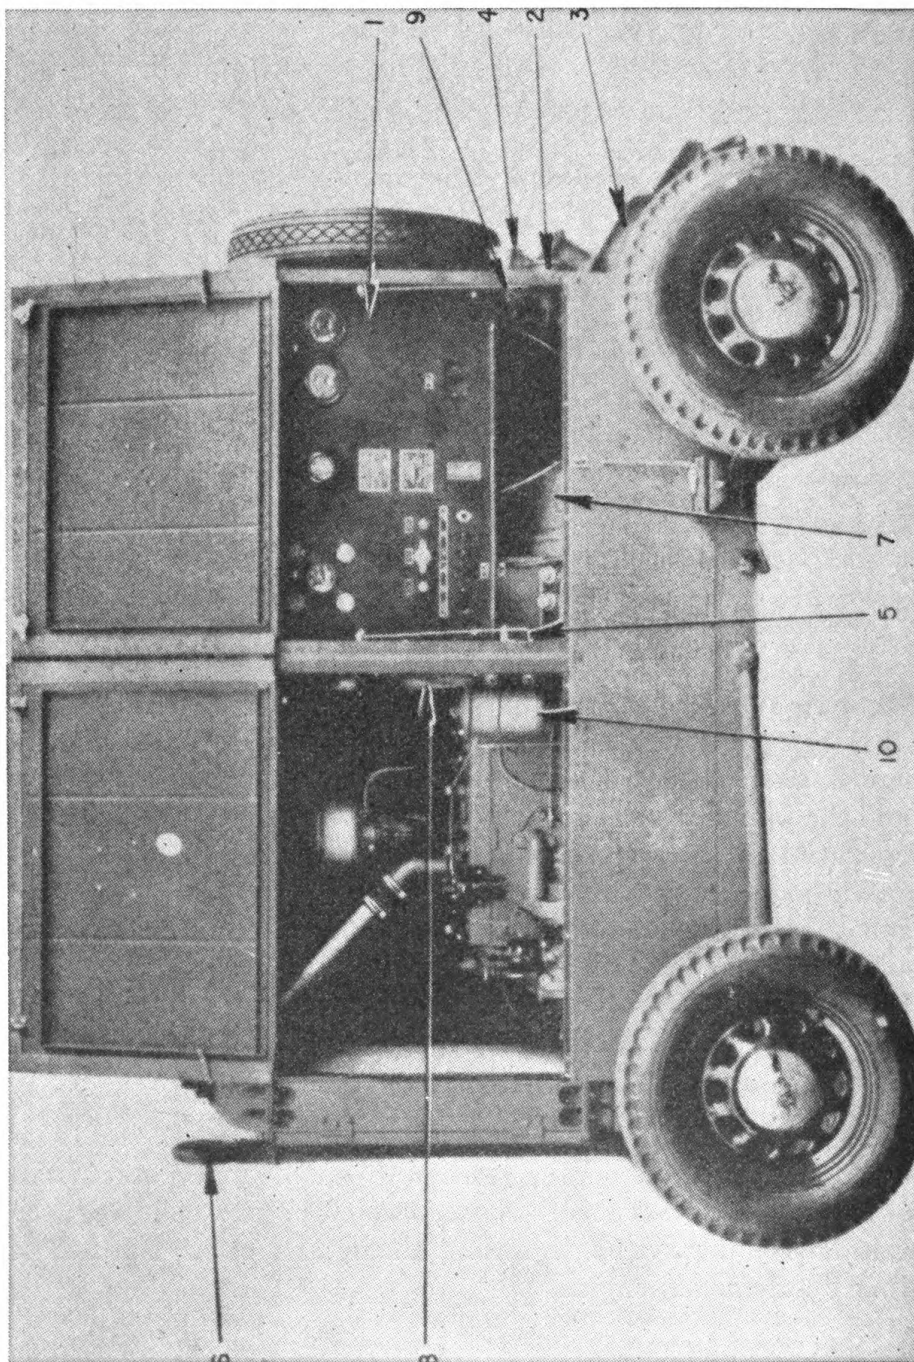
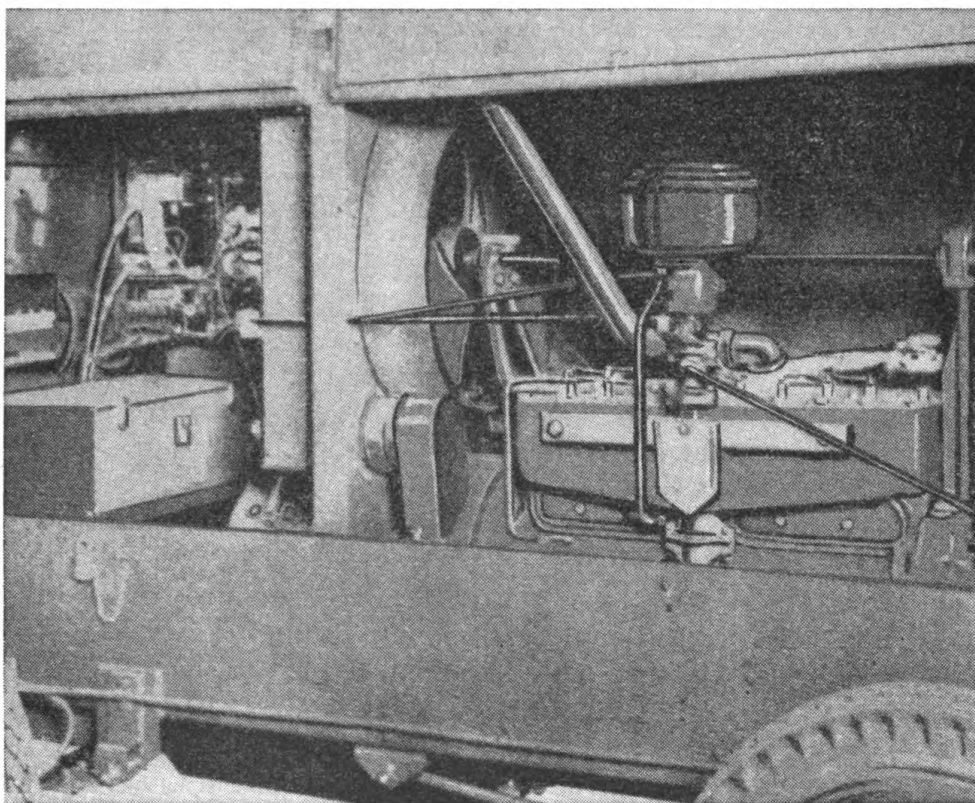

FIGURE 132.—Sperry M1941 power plant (left side).
FIGURE 138.—General Electric M1940 power plant.
**Q.** Point out the various parts, by name, of the power plant with which your organization is equipped. **A.** Refer to figures 132 and 133 for the M1941 Sperry power plant.
*Q.* Is the nomenclature of the Sperry and the General Electric power plants similar? *A.* Yes. Parts (compare fig. 138 with figs. 132 and 133) correspond except as follows:
- (1) The General Electric tank holds 26 gallons.
- (2) The General Electric tail lamp switch is located on the tail lamp.
- (3) The General Electric fan is driven by a pulley from the main crankshaft.